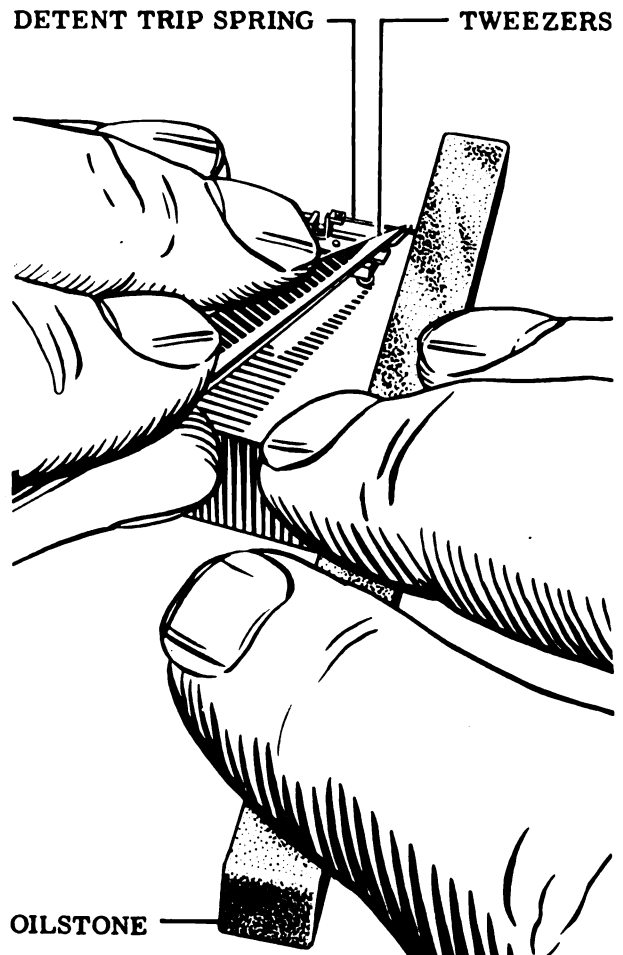

Figure 92
91. If, in Operation 87, the detent trip spring was found too long, it must be stoned off to proper length. This is done as shown in Fig. 92, by clamping down the detent and grasping the trip spring in the tweezers to steady it, at the same time using the stone, Tool No. 10. Stone off straight and remove all burrs.